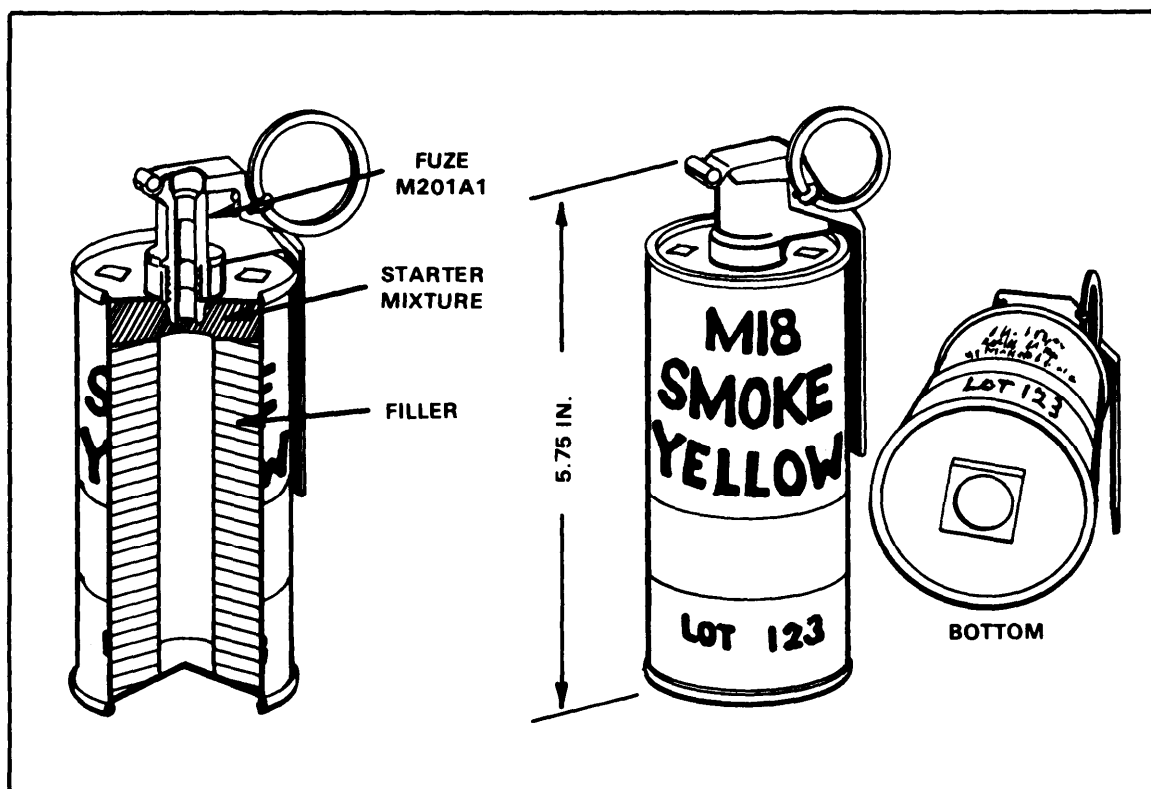

Figure 1-13. M18 colored smoke grenade.
c. M18 Colored Smoke (Figure 1-13). This grenade is used as a ground-to-ground or ground-to-air signaling device, a target or landing zone marking device, or a screening device for unit movements.
(1) Body -- sheet steel cylinder with four emission holes at the top and one at the bottom to allow smoke release when the grenade is ignited.
(2) Filler -- 11.5 ounces of colored smoke mixture (red, green, yellow, and violet).
(3) Fuze -- M201A1.
(4) Weight -- 19 ounces.
(5) Safety clip -- no.
(6) Capabilities -- can be thrown 35 meters by average soldier. The grenade produces a cloud of colored smoke for 50 to 90 seconds.
(7) Color/markings -- olive drab body with the top indicating the smoke color.
(8) Field expedient -- When employing the M18 or AN-M8 HC hand grenade, it may be desirable to use one of these grenades without the fuze. To do this, the following procedure should be used in combat only: